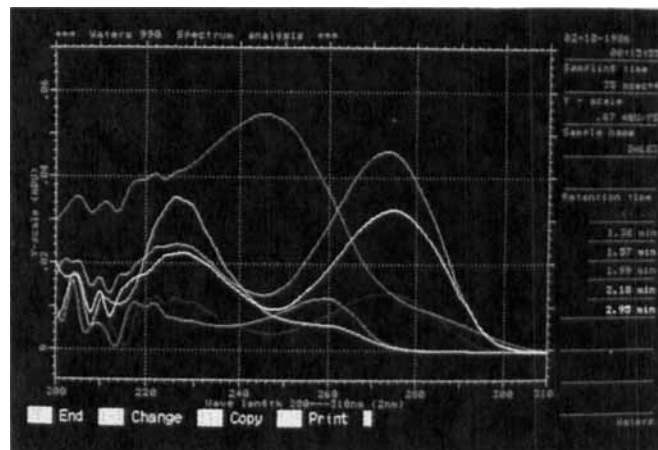

FIGURE 74. Spectral overlay of six spectra on the Waters-Millipore 990 DAD. (With permission.)
4. *Spectral overlays* (stacked spectra) show two or more spectra that are overlaid for comparison. These may also be normalized so they have the same height. Figure 70 (with lines in different colors) shows the automatic overlay of spectra (top) acquired from the upslope, crest, and downslope of each of four peaks on the Waters Millipore 990 DAD. Figure 73 shows an overlay presentation used in a spectral library search on the LKB DAD, and Figure 74 shows that up to six spectra can be overlaid by the Millipore-Waters 990 DAD.